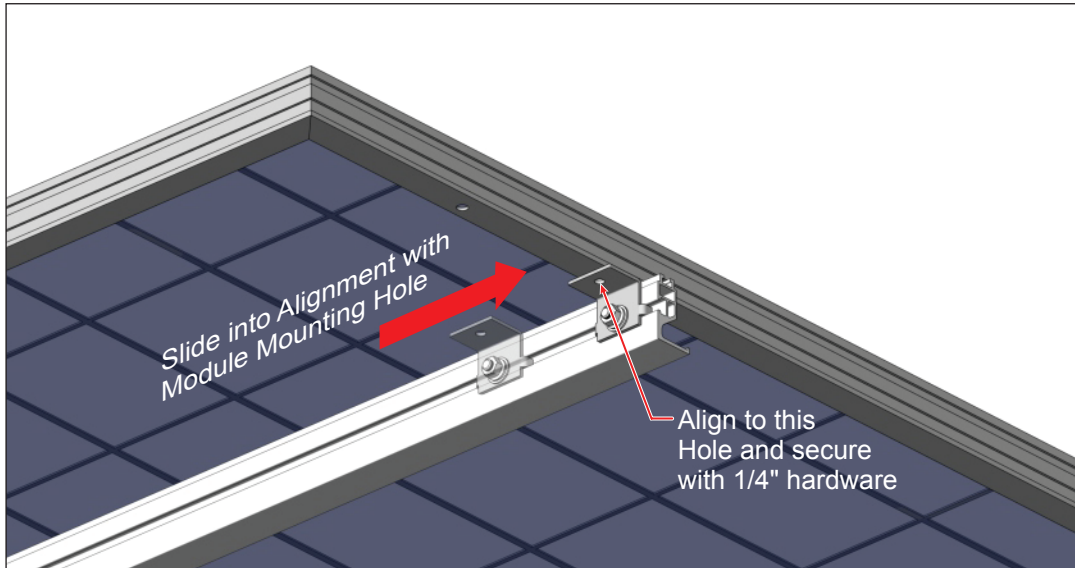

Figure 7-2: Aligning the Single Hole Slide Plate with PV Module Mounting Hole
- B. Locate the Single Hole Slide Plates (one on each Rail), loosen the hardware enough so that the Slide Plates will move, and slide their mounting holes into alignment with the just-installed-Module. Secure the Module with a 1/4" x 3/4" bolts and hardware. Finger-tighten for now. (See Figures 7-2 and 7-3 on page 13)